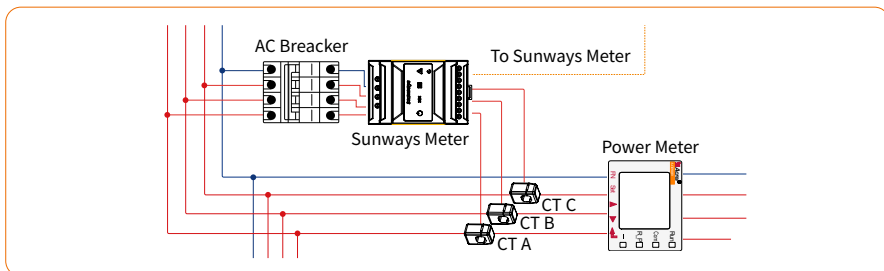

Figure 4-27 Meter wiring diagram
2) The CTs have been connected to the Sunways Meter when you received them, and you just need to follow the wiring diagram in the Meter to connect CT, as shown in Figure 4-27.